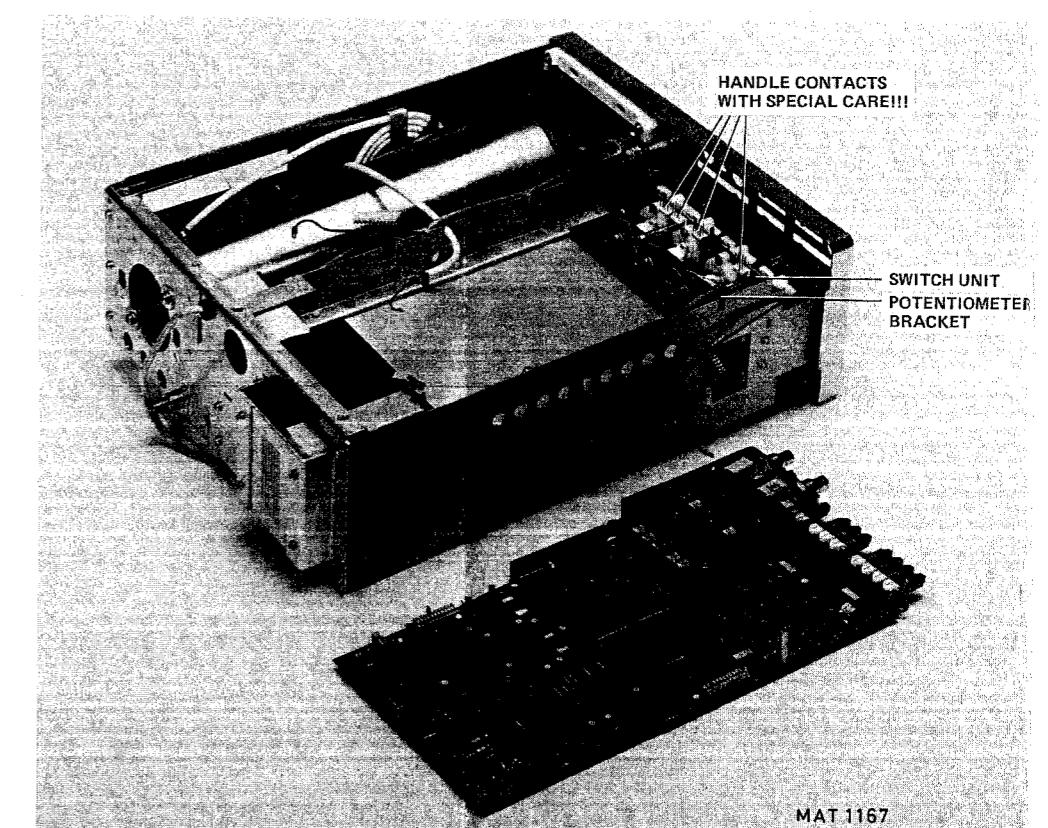

Fig. 6.6. Pre-amp. and trigger unit removed
- CHECK THAT THE CONTACTS AND THE POSITION-PINS OF THE SWITCH UNIT ARE FREE FROM THE PRE-AMPLIFIER AND TRIGGER UNIT IN ORDER TO PREVENT THAT THE CONTACTS ARE BEND IF THE UNIT IS TAKEN OUT OF THE INSTRUMENT (see fig. 6.6.).